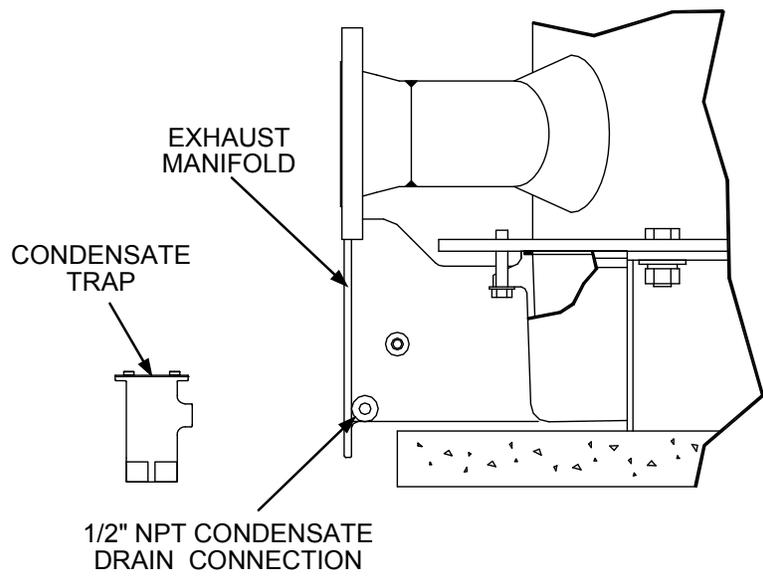

Figure 12. Benchmark 2.0LN Condensate Trap Location
7. Check the condensate drain tapped hole in the exhaust manifold (Figure 12) to ensure it is clear of blockage.